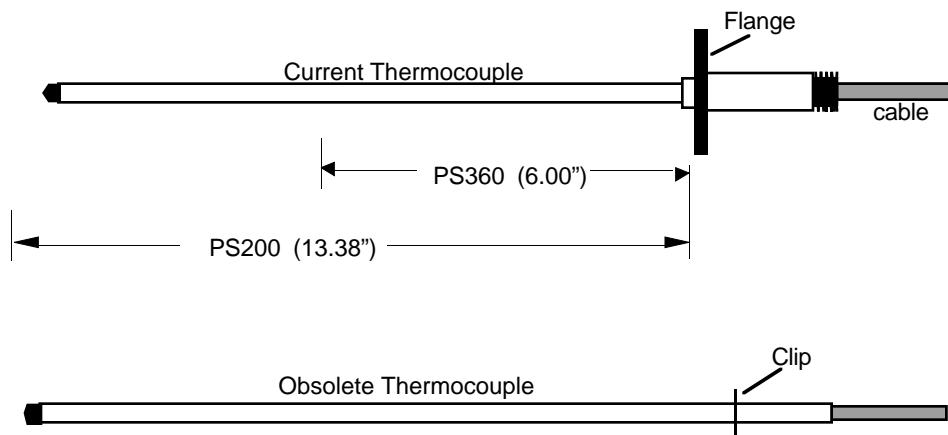

Figure 4 - Current & Obsolete Thermocouple Comparison.
5. Check to be sure the oven's thermocouple is the latest version flange mount style verses the obsolete version. See Figure 4 below.